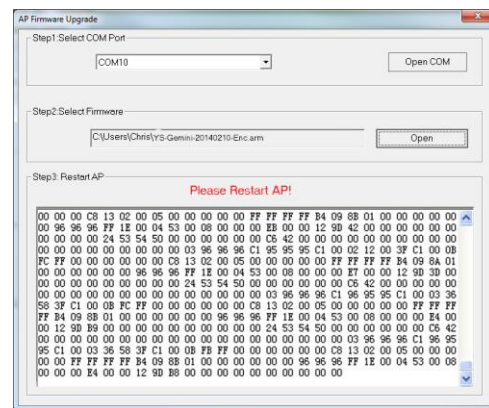

Figure 70
9. Power-off the autopilot when it says in red, “Please Restart API!” and then close the window, as shown in Figure 70.